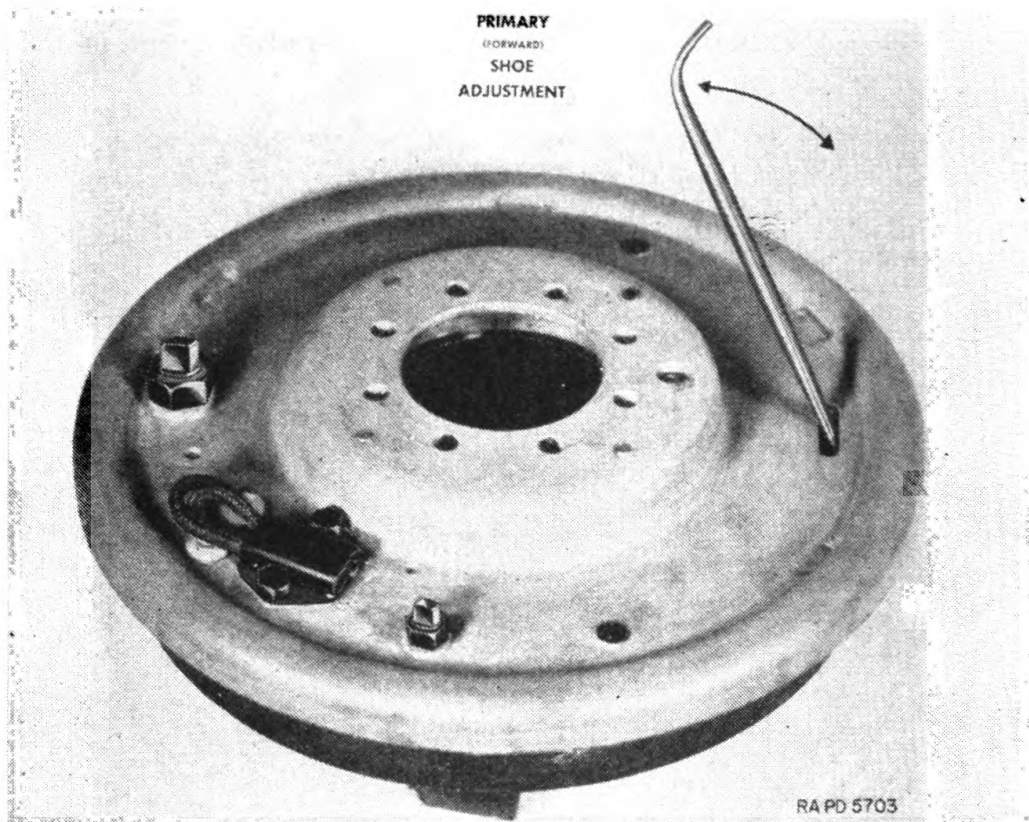

FIGURE 42.—Primary shoe adjustment, lever type electric brake.
(2) With the preceding two adjustments securely locked, turn the adjusting wheel (figs. 42 and 43) until there is a slight drag when the